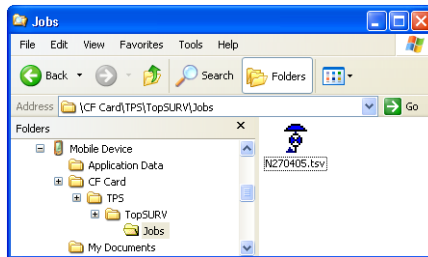

Figure 8-4. Selecting the Folder in the TPS Controller
1. Open Windows Explorer and click the *Mobile Device* folder. The right panel of the window displays the contents of the Topcon Controller (Figure 8-4). Select the folder in the TPS Controller where the exported file will be saved and select the desired file in the computer.